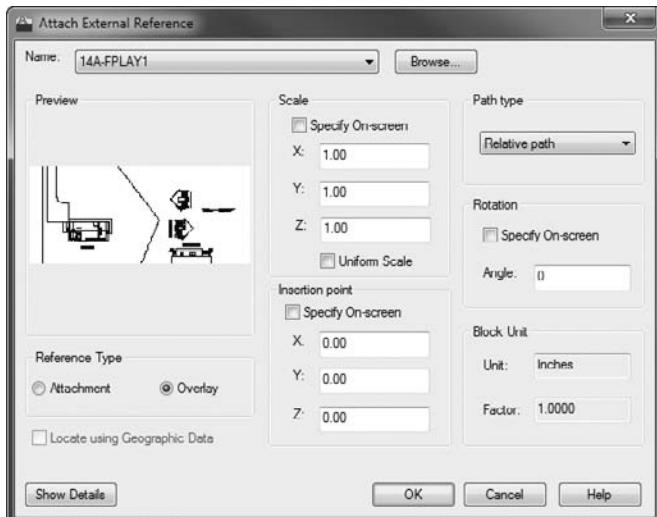

FIGURE 14.46 The Attach External Reference dialog box
4. Use the XREF command to attach 14A-FPLAY1.dwg to the current drawing. Configure the Attach External Reference dialog box to match Figure 14.46.